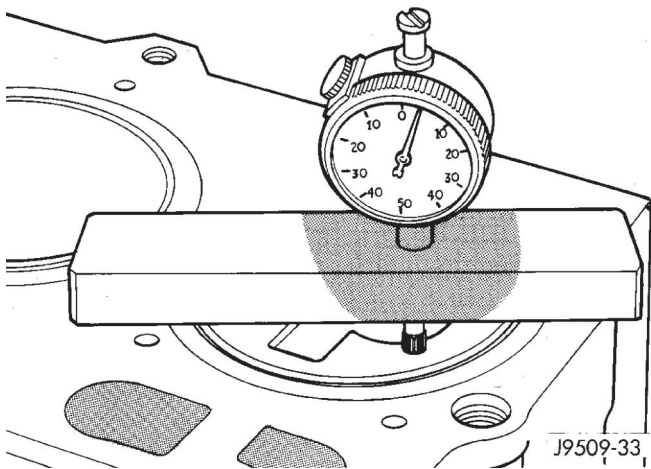

Fig. 31 Measuring Piston Protrusion
(1) Use special tool VM-1010 with dial indicator special tool VM- 1013 (Fig. 31).